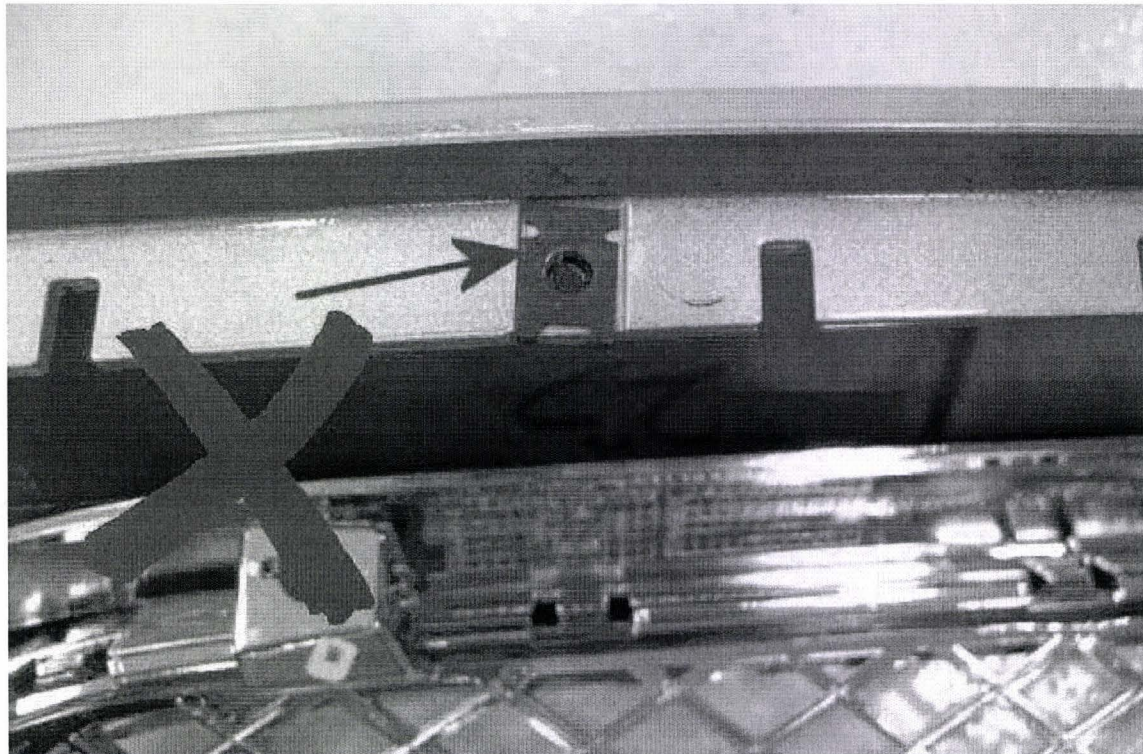

Figure 4
- Should the clips be found to be black (Figure 4) these are incorrect and must be replaced